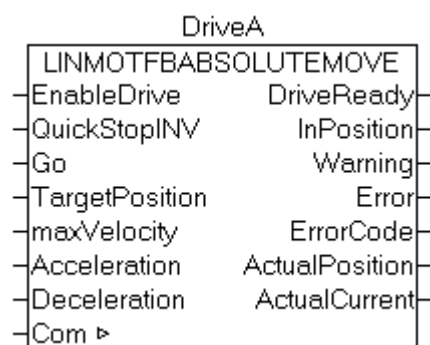

Figure 3: Inputs and outputs of LinMotFBAbsoluteMove
With the inputs and outputs of LinMotFBAbsoluteMove (Figure 3) the LinMot drive is controlled and monitored. On the next page they are described in Table 1 and Table 2. The function block is written in Structured Text (ST).